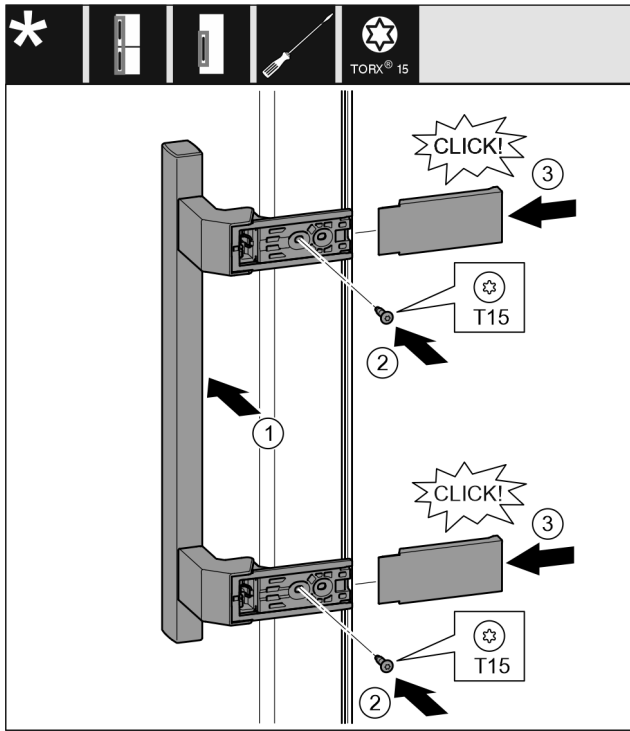

Fig. 12
- ▶ Position the handle on the other side. Fig. 12 (1)
- ▶ Tighten the screw with a T15 screwdriver. Fig. 12 (2)
- ▶ Position the covers on the side and push them on. Fig. 12 (3)